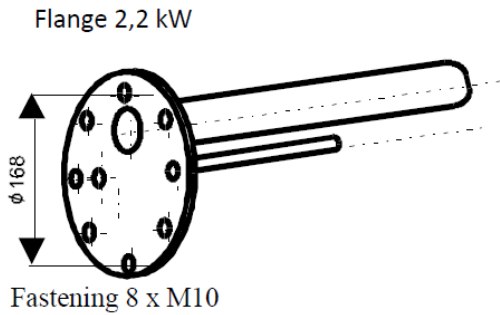

Figure 7
**Water tank must be equipped with a universal electric heating unit** with either set or adjustable heating element performance. A heating unit consists of a flange, to which one or three wells for ceramic heating elements and one thermowell are welded (see Figure 7). The unit is fixed with 8 screws M10 with spacing 168 mm.